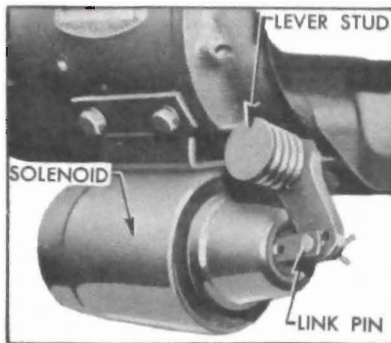

Figure 1-2—Cranking Motor Shift Linkage
3. *Cranking Motor (Starter).* Apply a few drops of engine oil to the solenoid link pin and to the bearing between shift lever and stud. See figure 1-2. *Do not oil Solenoid plunger.*